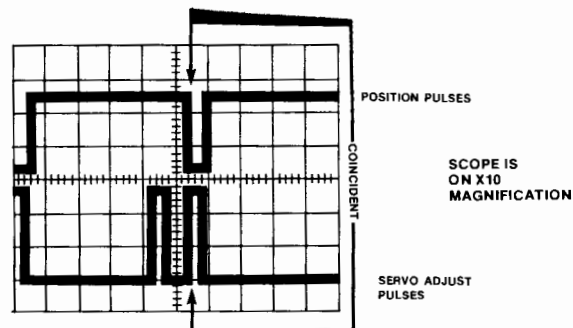

Figure 7. Velocity Amplitude Adjustments
5. Adjust R55 (labelled VEL AMPL) to position the leading edge of the second position pulse coincident with the leading edge of the second of the group of servo adjust pulses as shown in figure 7.